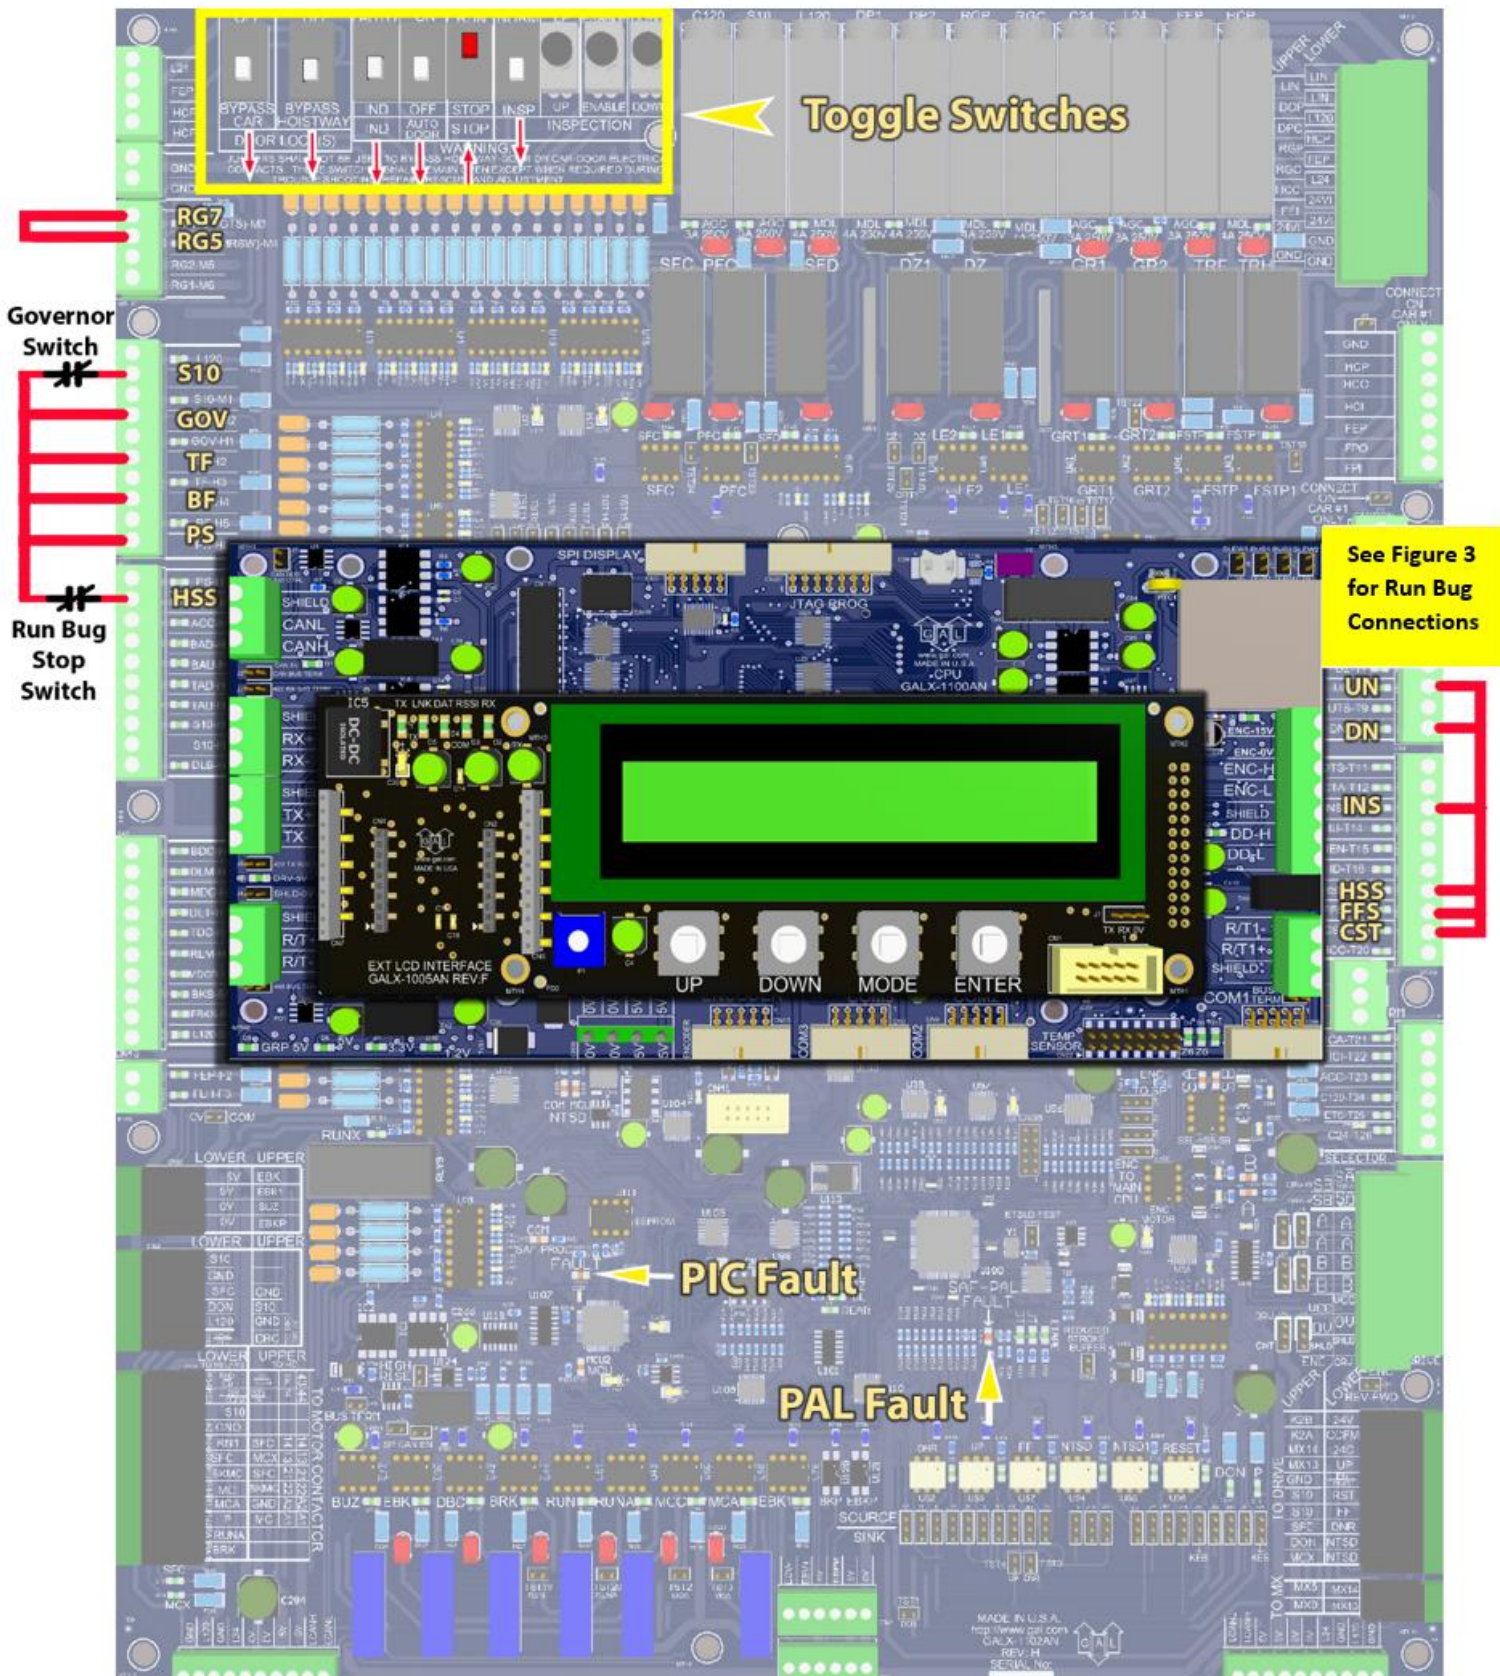

Figure 4: GALX-1102AN Main I/O Board
- 1.6 Set the toggle switches on the GALX-1102 Main I/O Board as show in Figure 4.
- 1.9 Verify the PIC and PAL fault LED’s are off. See the GALX-1102AN Main I/O Board in Figure 4. If these LED’s are on, refer to the GALaxy IV adjustment manual for possible causes of these faults.
With Run Bug. See Figure 4